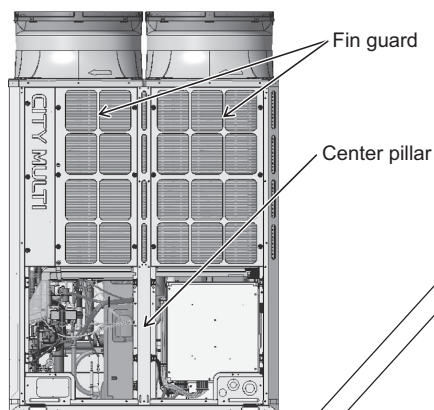

Figure 1
- (1) Remove the front panel from the unit by unscrewing the 14 screws. (See Figure 1.) *Figure 1 shows the unit without the front panel.
- (2) Remove the fin guard by unscrewing the 12 screws. (See Figure 1.)
- (4) Remove the center pillar by unscrewing the five screws. (See Figure 1.)